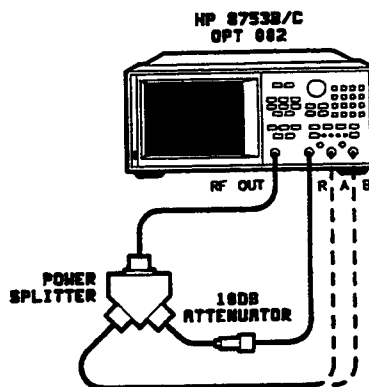

Figure 30. Receiver Harmonics Test Setup
12. Connect the equipment as shown in Figure 30, with the cable connection to input B.